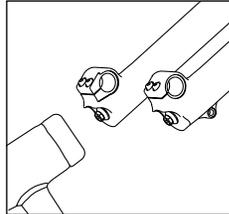

Fig. 2
3. Place an oil pan underneath the fork. Partially loosen shaft bolts with a 6mm hex wrench, tap bolts firmly with a soft mallet to break shafts free from lower tubes (Fig. 2), and remove bolts completely.